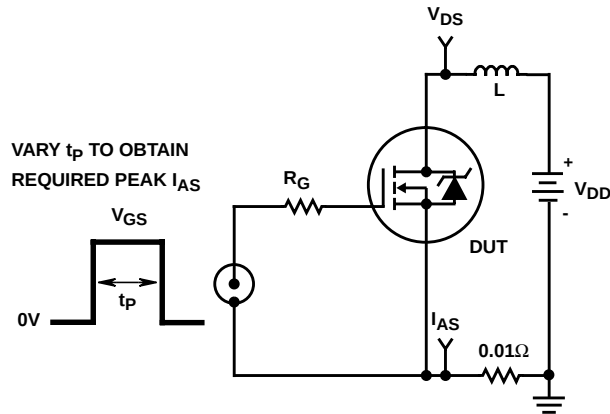

FIGURE 15. UNCLAMPED ENERGY TEST CIRCUIT
- $V_{DD} = 50\text{V}$, starting $T_J = 25^{\circ}\text{C}$, $L = 3.37\text{mH}$, $R_G = 25\Omega$, peak $I_{AS} = 18\text{A}$. (Figures 15, 16).